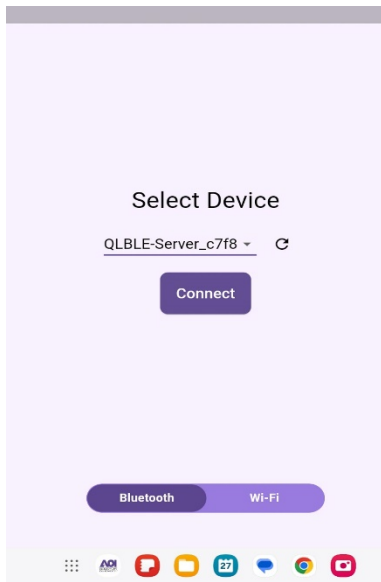

Figure A- 11: Device Connection
- Establish point to point connections via Bluetooth between the technician's portable device and the QuantumLink Local Wireless Interface by using "Select Device" drop down in the QuantumLink Local Mobile Application menu to select the proper QuantumLink Local Wireless Interface. Figure A-11.